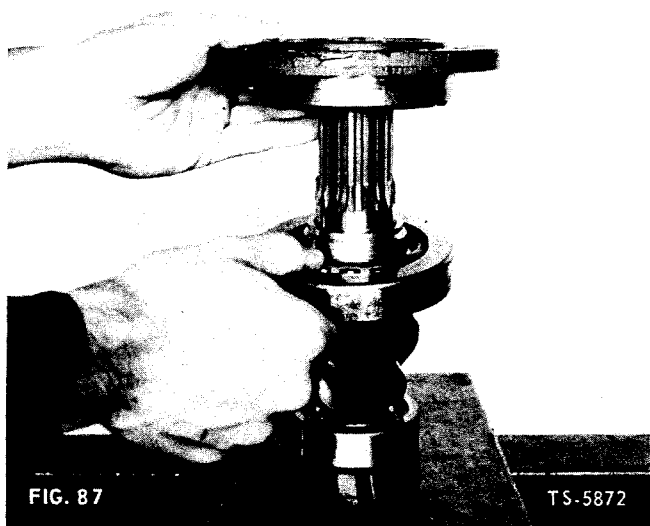

FIG. 87
8. After spacer and shim have been installed (Fig. 79), position center bearing cup and bearing cage on pinion shaft (Fig. 87).